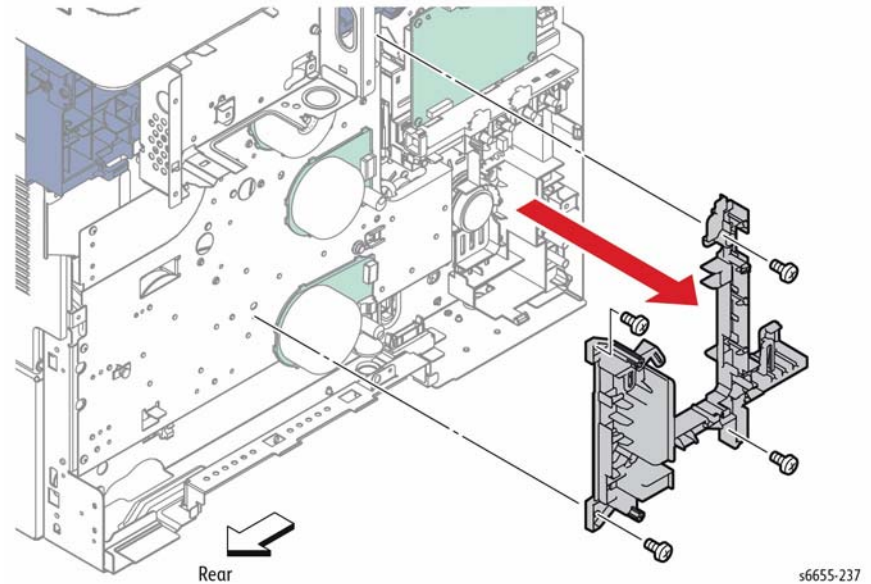

Figure 2 Remove the Video Harness Guide
8. Refer to Figure 2 to locate and disconnect plugs P/J171, P/J311, P/J172, P/J312, P/J331, P/J213 from the three drive motors and the interim connector from the jack inside the Main Drive Assembly.
10. Refer to Figure 2 to locate and remove the four screws (silver, 6 mm) that attach the Video Harness Guide to the printer and remove the guide.